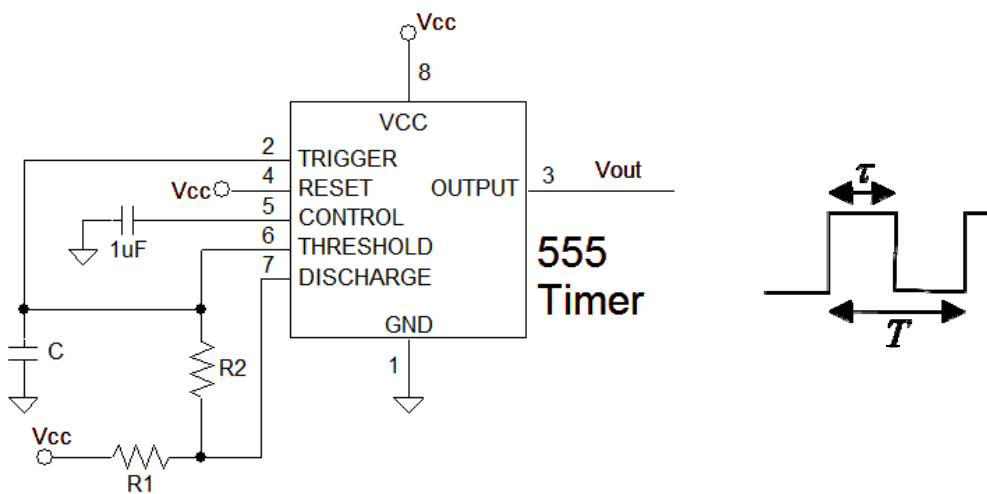

Figure 5 – Setup and output for the 555 timer in the astable mode (left) and definitions for duty cycle (right).
The 555 timer is a popular IC often used as a timer, logic clock, or oscillator, with three modes of operation: monostable, bistable, and astable. The configuration for astable mode of the 555 timer is shown on the left in Fig. 5.
The output is a pulse waveform and comes from pin 3. A characteristic of pulse waveforms is known as the *duty cycle*, defined as $D = \frac{\tau}{T}$, where τ is the duration of the “high” pulse and T is the period (as shown on the right in Fig. 5). Therefore $T - \tau$ is the duration of the “low” pulse. We design the timer to output a pulse waveform with a certain duty cycle and frequency, using the following two equations,
5. Design an astable 555 timer circuit as in Fig. 5 with duty cycle 0.6 and frequency 200. Show work.
7. Build the astable 555 timer circuit from Fig. 5, with $R_1 = 1\text{ k}\Omega$ and $C = 1\ \mu\text{F}$. Use a resistance box for R_2 . Put a clear LED in series with a $1\text{ k}\Omega$ resistor between the output (pin 3) and ground. (Note: the long leg of the LED is the positive terminal.) Set the box to $1\text{ M}\Omega$ and turn the power on.